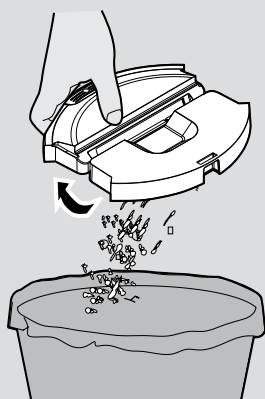
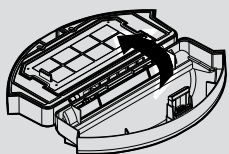

Fig. 8
Fig. 9
3. Empty the dust container over a dust bin. [Fig. 8]
2. Empty dust container. [Fig. 8] Open the dust container, remove the filter mesh with filter together, then remove EPA filter from filter mesh and clean them separately. The assembly is done in reverse order, make sure the filter is assembled correctly. [Fig. 9]